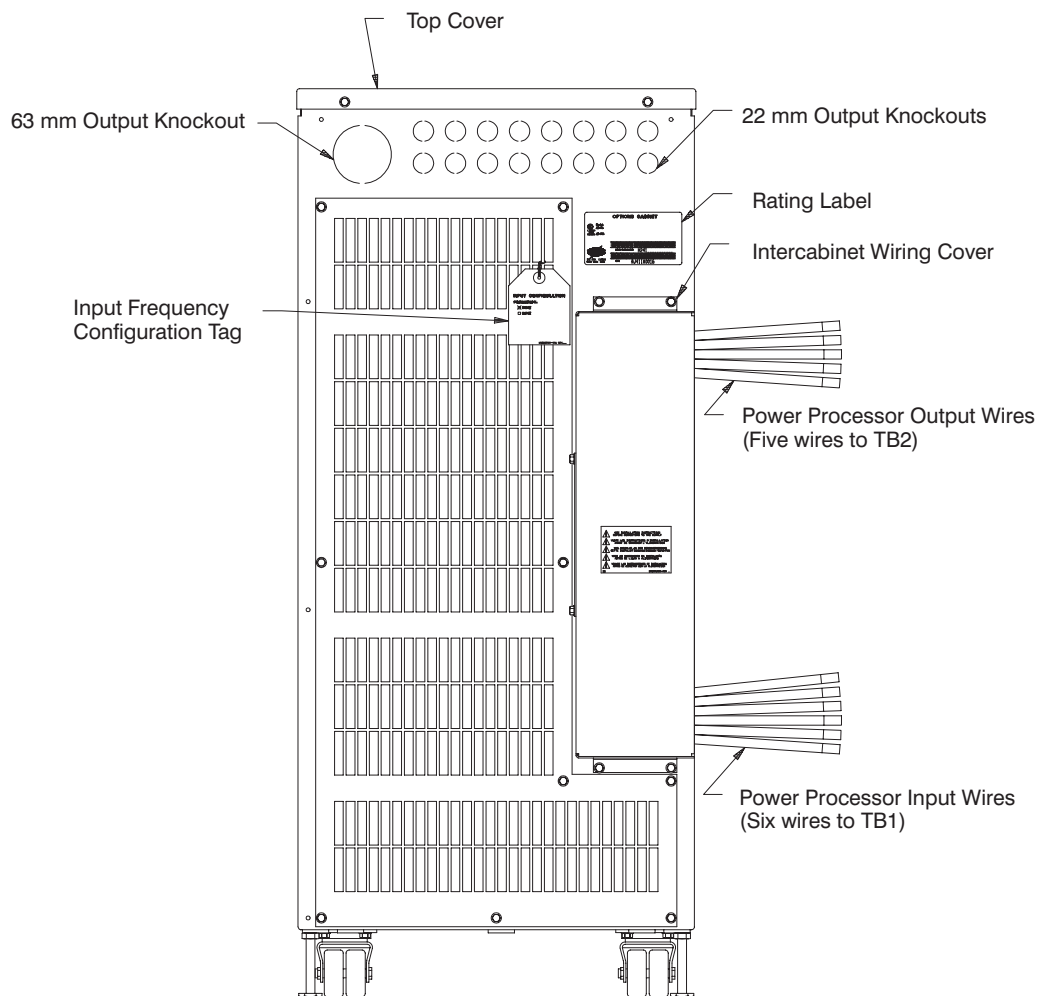
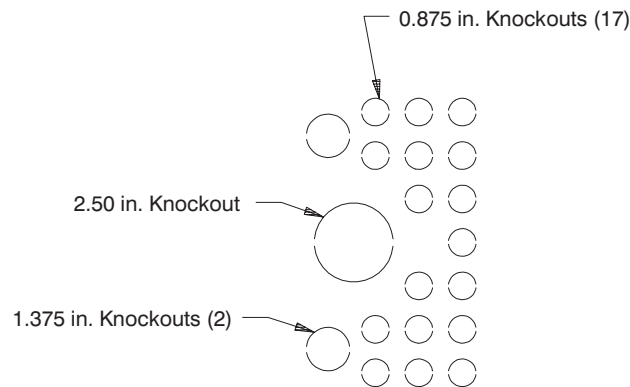

Figure 19. Options Cabinet Rear View
Figure 23. Bottom Entry Conduit Knockouts
1. Make sure that the source voltage matches input voltage specified on rating label of this cabinet (see Figure 19).
6. Pass the two sets of wires from options cabinet (Figure 19) through corresponding entry holes of power processor cabinet (input/output power entry) (Figure 8).
- Prepare the knockouts for bottom entry (Figure 23) or back entry (see Figure 19).